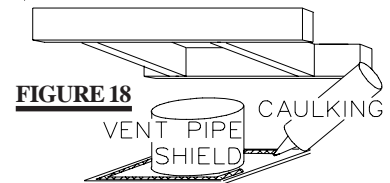

FIGURE 18
2. Apply a bead of caulking (not supplied) to the framework or to the Wolf Steel vent pipe shield plate or equivalent (in the case of a finished ceiling), and secure over the opening in the ceiling. **FIGURE 18.** A firestop must be placed on the bottom of each framed opening in a roof or ceiling that the venting system passes through. Apply a bead of caulking all around and place a firestop spacer over the vent shield to restrict cold air from being drawn into the room or around the fireplace. Ensure that both spacer and shield maintain the required clearance to combustibles. Once the vent pipe / liner is installed in its final position, apply sealant between the pipe / liner and the firestop spacer.